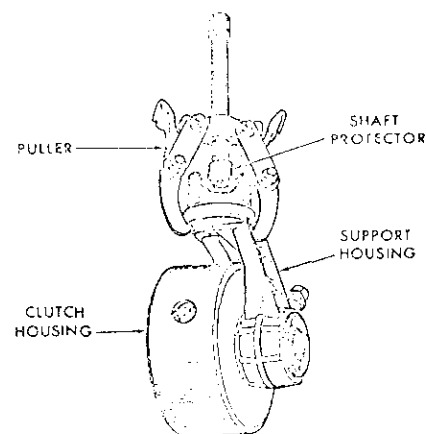

Fig. 357A—Use puller attached as shown to remove and install brake piston in one-piece support. Refer to text.
On models with production date of March 1969 and later, remove brake assembly from support before removing support from clutch housing hub as follows: Attach a puller as shown in Fig. 357A, push washer (29) inward far enough to remove snap ring (30), then release spring pressure and remove washer and springs (28 and 28A). Pull support (17A) from clutch housing hub, then remove brake piston (25) from support and remove "O" rings (26 and 27) from piston. Remove pin (24) and brake arm (22) from housing.
On models production date March 1969 and later, install brake arm (22) and pin (24) in support (17A), then install support over rings on clutch housing hub with oil port on top side. Install new sealing rings on brake piston, lubricate the rings and insert piston into support. Install brake springs and washer, attach puller (Fig. 357A), compress springs and install snap ring.